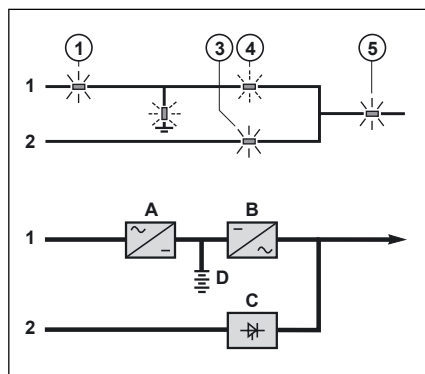

Fig. 12
- after battery discharge (see figure 12).